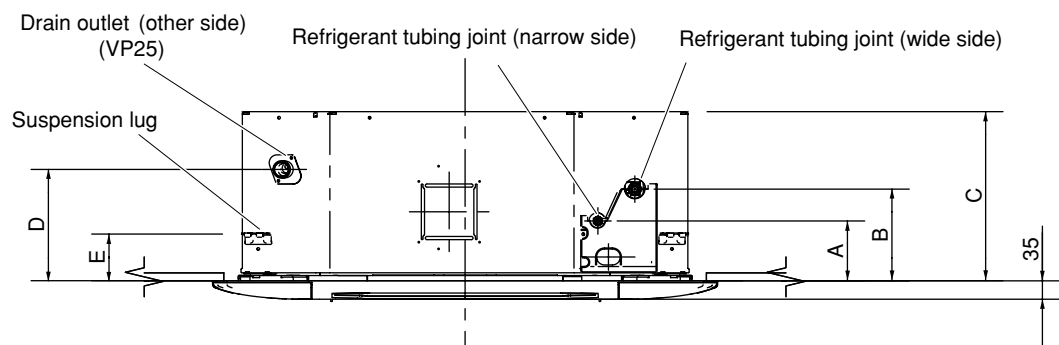

Fig. 3-3
(3) Determine the pitch of the suspension bolts using the supplied full-scale installation diagram. The diagram and table (Fig. 3-3 and Table 3-2) show the relationship between the positions of the suspension fitting, the unit, and the panel.